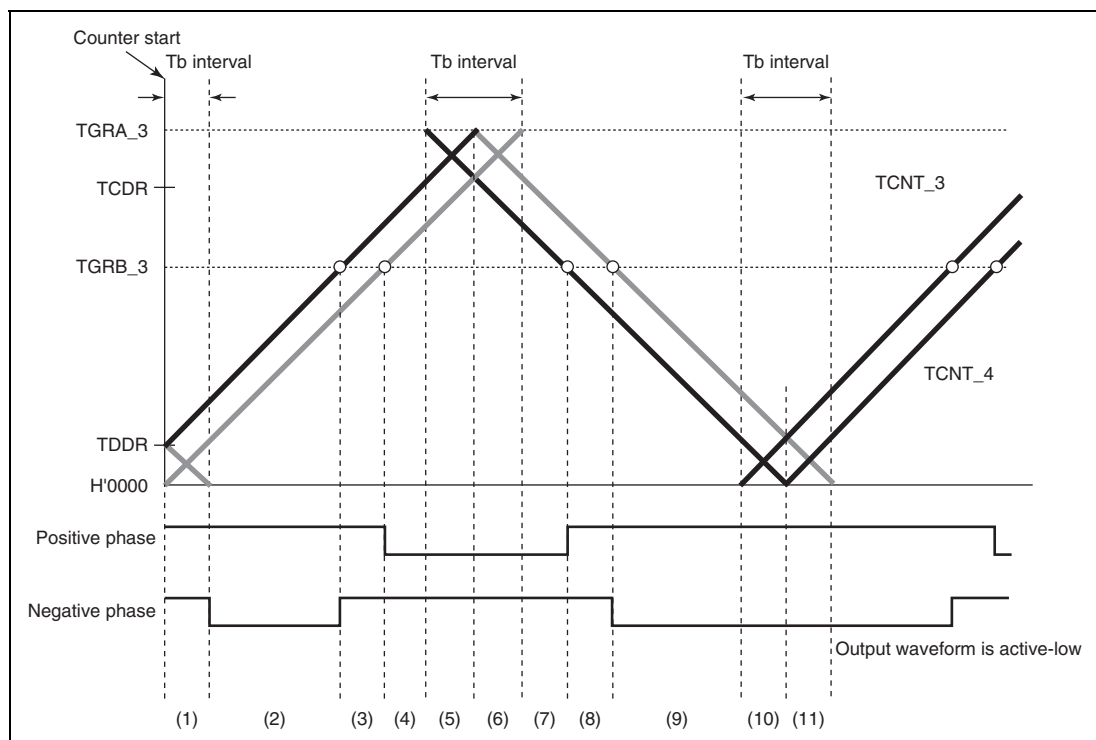
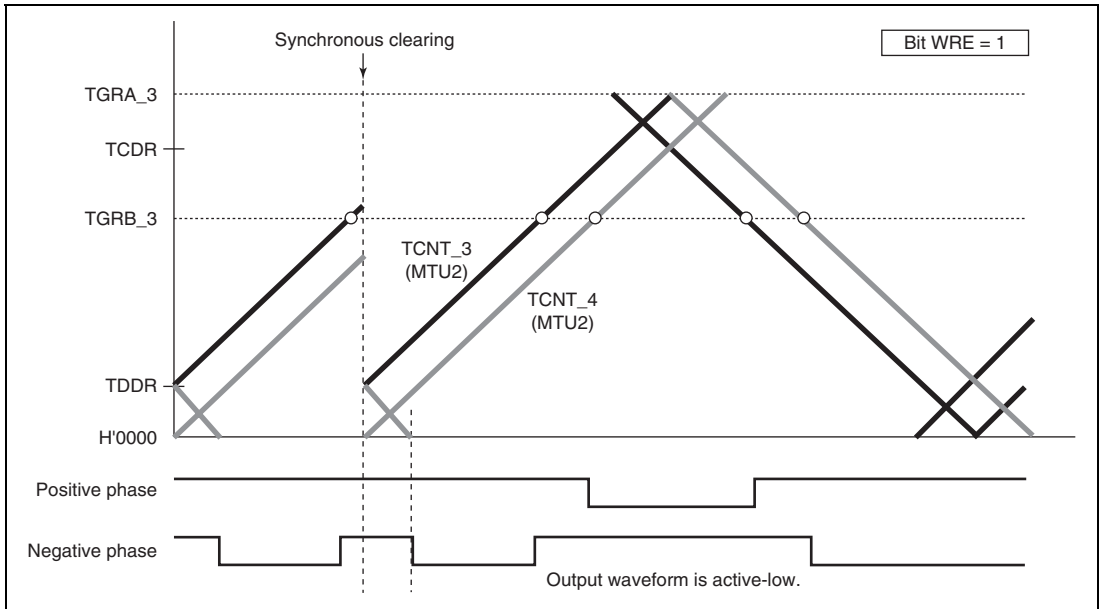

Figure 9.56 Timing for Synchronous Counter Clearing
Figure 9.58 Example of Synchronous Clearing in Dead Time during Up-Counting (Timing (3) in Figure 9.56; Bit WRE of TWCR in MTU2 is 1)
Initial output suppression is applicable only when synchronous clearing occurs in the Tb interval at the trough as indicated by (10) or (11) in figure 9.56. When synchronous clearing occurs outside that interval, the initial value specified by the OLS bits in TOCR is output. Even in the Tb interval at the trough, if synchronous clearing occurs in the initial value output period (indicated by (1) in figure 9.56) immediately after the counters start operation, initial value output is not suppressed.
Figures 9.58 to 9.61 show examples of output waveform control in which the MTU2 operates in complementary PWM mode and synchronous counter clearing is generated while the WRE bit in TWCR is set to 1. In the examples shown in figures 9.58 to 9.61, synchronous counter clearing occurs at timing (3), (6), (8), and (11) shown in figure 9.56, respectively.
(Timing (6) in Figure 9.56; Bit WRE of TWCR in MTU2 is 1)
(Timing (8) in Figure 9.56; Bit WRE of TWCR is 1)**
(Timing (11) in Figure 9.56; Bit WRE of TWCR is 1)**